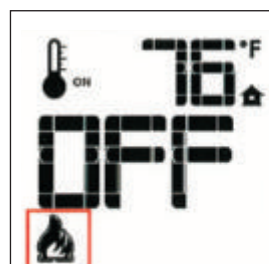

Figure 7.6. Burner OFF.
- With the system ON, and the burner flame level at maximum, press the Down Arrow Key once to reduce the flame height by one step. Each time the Down Key is pressed, the flame will step down until the burner is finally turned off. Fig. 7.6.